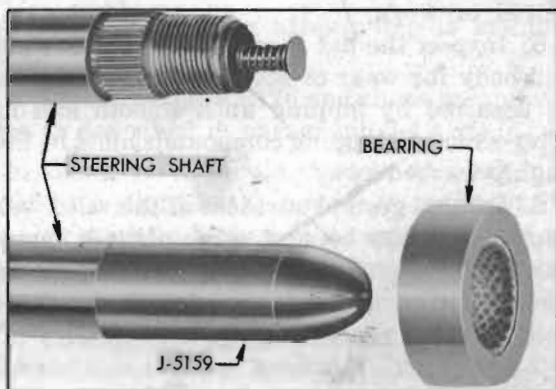

Figure 7-37—Steering Shaft, Upper Bearing, and Bearing Projector J 5159
27. Place Bearing Protector J 5159 over the end of steering shaft. See figure 7-37. Install steering column jacket and transmission control shaft assembly, using care to avoid damaging the fabric control shaft bearing in the valve cover.